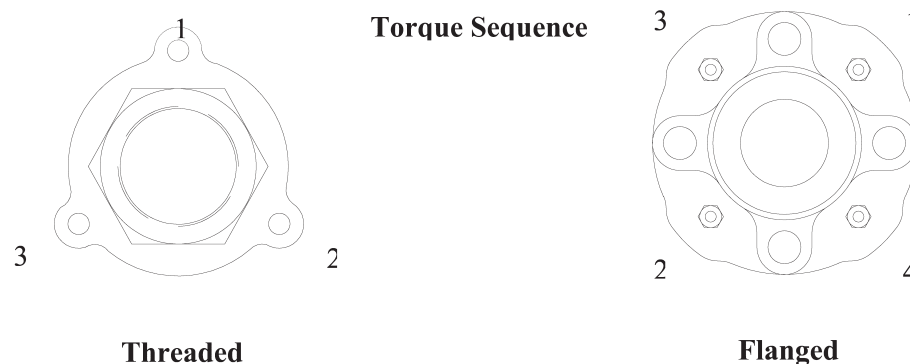

Figure 1
The nuts on your Full View Flow Indicator were brought to the proper torque values at the factory. However, during shipment and handling they may have loosened. Therefore check all nuts before placing the unit in service. The proper sequence is displayed in Figure 1. The correct torque value is listed in Table 2.
- i) Install the outer nuts on each tie rod and torque in small increments (3 ft-lbs or less) to the correct value. Use the torque sequence and value as shown in Figure 1 and Table 2 respectively.